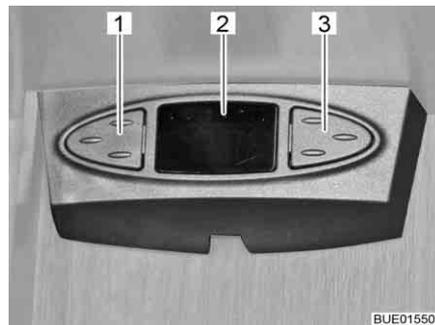

Fig. 29 Satellite mouse
Depending on the model, the satellite receiver is equipped with a satellite mouse. The satellite mouse's display (Fig. 29,2) shows the current channel. The two buttons can be used to operate the basic functions of the satellite unit (changing channel, switching on/off).
- Choosing the previous channel from the list: Press left button (Fig. 29,1).
- Choosing the next channel from the list: Press right button (Fig. 29,3).
- Switching between radio and TV: Press the buttons (Fig. 29,1 and Fig. 29,3) briefly at the same time.
- Switching the receiver on/off: Press and hold the buttons (Fig. 29,1 and Fig. 29,3) at the same time.